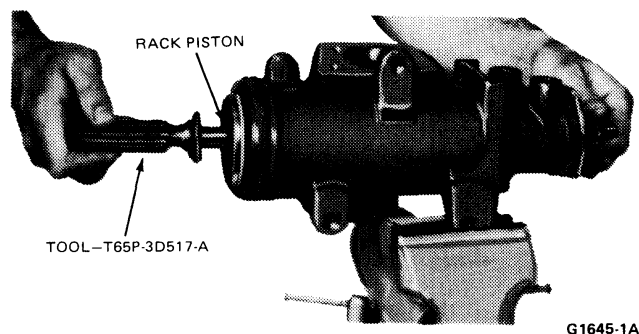

FIG. 21 Removing Rack Piston
13. Insert Tool T65P-3D517-A (Fig. 21) into the end of the rack-piston until it contacts the worm shaft. Rotate the stub shaft counterclockwise until the worm is free of the rack-piston. Withdraw the rack-piston from the housing holding the tool all the way in the piston to avoid dropping the balls. **Do not disassemble the rack-piston at this time.**